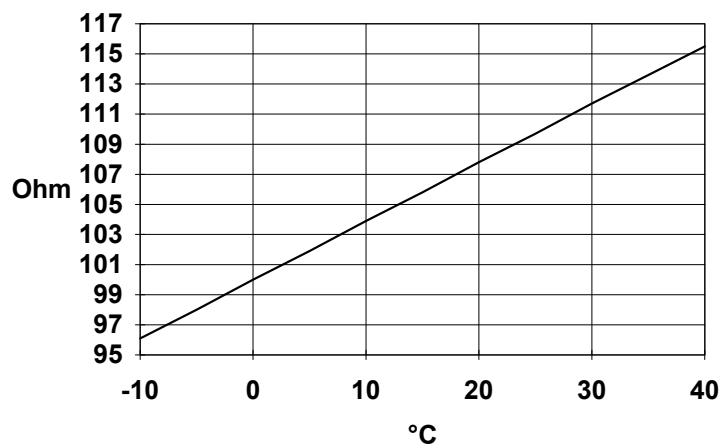

Figure 13 Resistance-temperature characteristics of the PT100 temperature sensor
In this case the sensor must be disconnected from pins 1 and 2 at the **EC** automatic control board (Fig. 10) and removed from the cooling block. When measuring the resistance of the PT100 element, this must be proportional to the ambient temperature. The resistance-temperature characteristics are shown in Figure 13 below.
- Make the cut-out for the temperature display into the front panel according to the locating distance shown in figure 13;